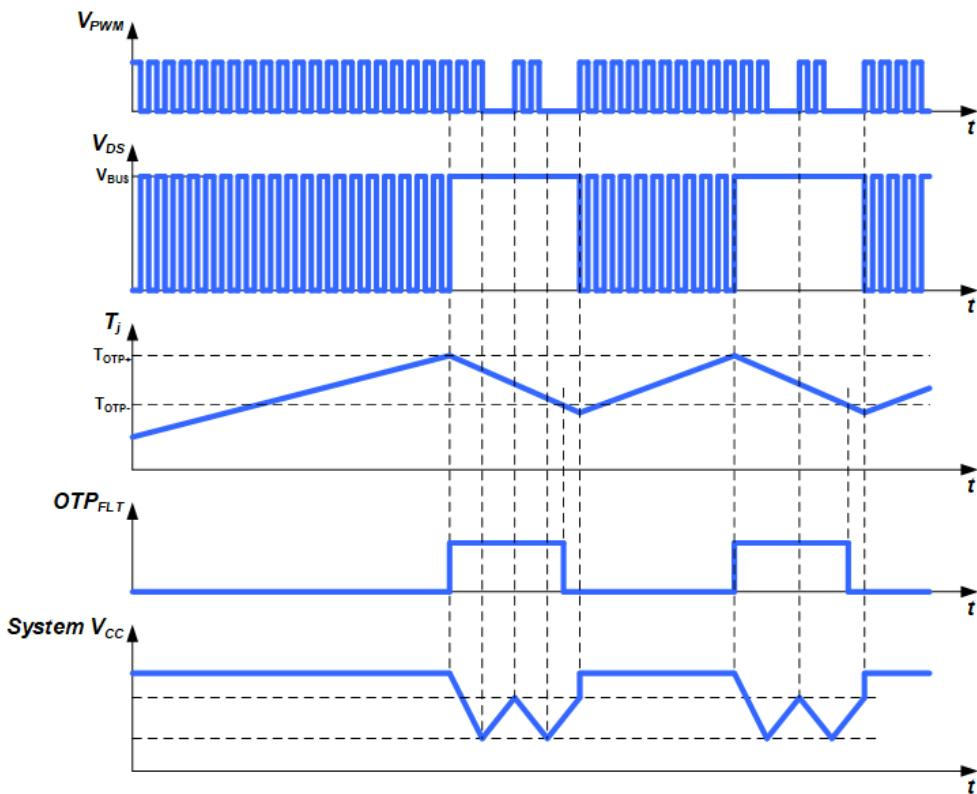

Figure 25. OTP threshold timing diagram
This GaN Power IC includes over-temperature detection and protection (OTP) circuitry to protect the IC against excessively high junction temperatures (T_J). High junction temperatures can occur due to overload, high ambient temperatures, and/or poor thermal management. Should T_J exceed the internal T_{OTP+} threshold (165°C , typical) then the IC will latch off safely. When T_J decreases again and falls below the internal T_{OTP-} threshold (95°C , typical), then the OTP latch will be reset. Until then, internal OTP latch guaranteed to remain in the correct state while V_{CC} is greater than 5V. During an OTP event, this GaN IC will latch off and the system V_{CC} supply voltage will decrease due to the loss of the aux winding supply. The system V_{CC} will fall below the lower UV- threshold of the controller and the high-voltage start-up circuit will turn-on and V_{CC} will increase again (Figure 25). V_{CC} will increase above the rising UV+ threshold and the controller turn on again and deliver PWM pulses again.
GaN Power ICs have been designed and tested to provide significant design margin to handle transient and continuous voltage conditions that are commonly seen in single-ended topologies, such as quasi-resonant (QR) flyback applications. The different voltage levels and recommended margins in a typical QR flyback can be analyzed using Figure 25. When the device is switched off, the energy stored in the transformer leakage inductance will cause V_{DS} to overshoot to the level of V_{SPIKE} . The clamp circuit should be designed to control the magnitude of V_{SPIKE} . After dissipation of the leakage energy, the device V_{DS} will settle to the level of the bus voltage plus the reflected output voltage which is defined in Figure 26 as V_{DS-OFF} .